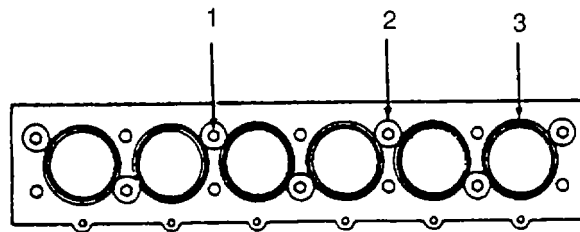

FIGURE 3-140. Fastening Cylinder Liners
- f. Use short capscrews (1, FIGURE 3-140) and 1/8 inch (3.18 mm) thick washers (2) to bolt down cylinder liners (3). Fasten liners in seven locations. Tighten capscrews to 50 ft-lbs (68 Nm).
- b. Remove capscrews (1, FIGURE 3-140) and washers (2) securing liners (3) to engine block.